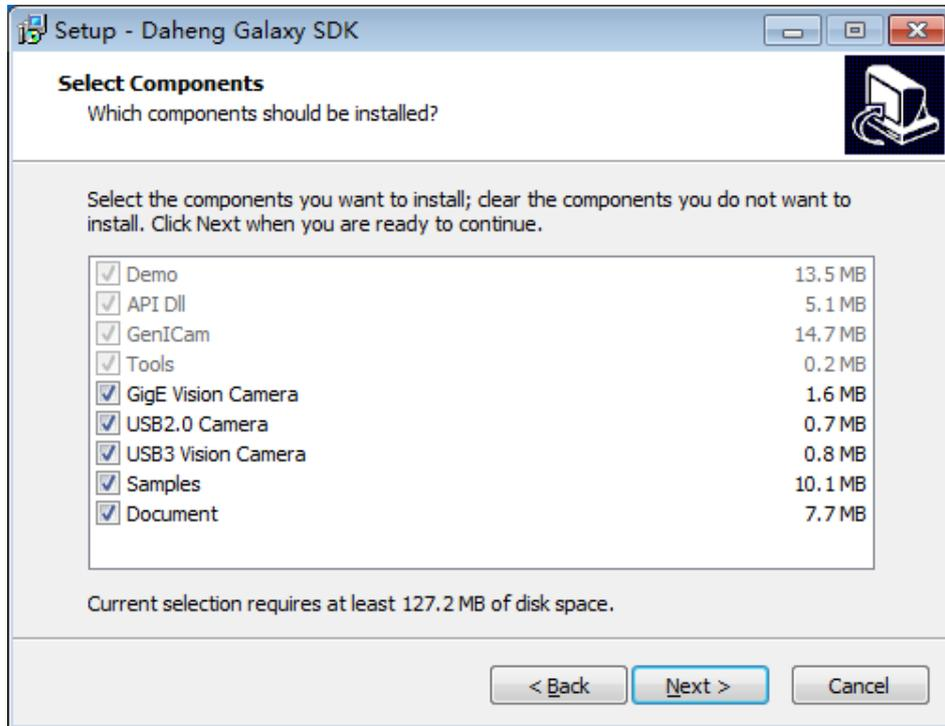

Figure 2.2-12
(15) Click next to continue the installation and select the components you want to install. As shown in figures 2.2-12: